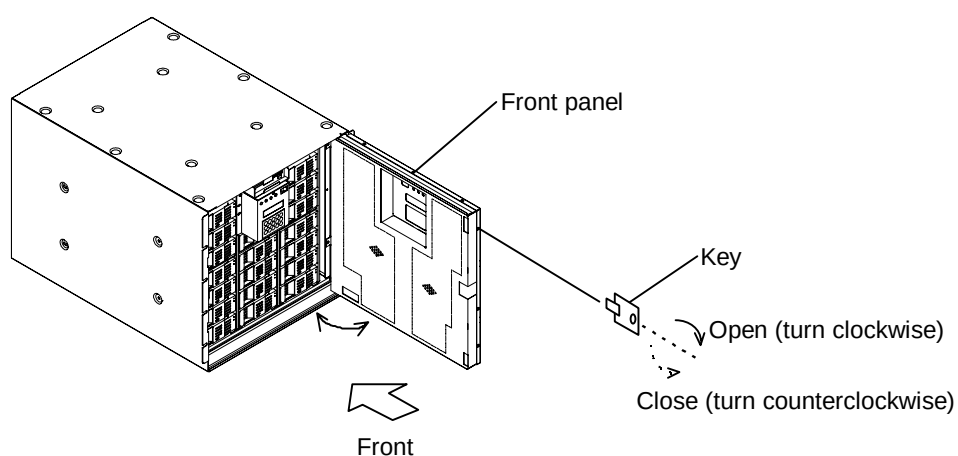

Figure 3.3.1 Opening/Closing the Front Panel
(1) Opening the front panel. (See Figure 3.3.1.)
- ① Remove the front bezel.
- ② Insert the key, turn it to the arrow direction (→) and hold the left of the front panel to open to the right.
(2) Closing the front panel. (See Figure 3.3.1.)
- ① Close the front panel.
- ② Turn the key to the arrow direction (↶) and secure the front panel.
- ③ Attach the front bezel.